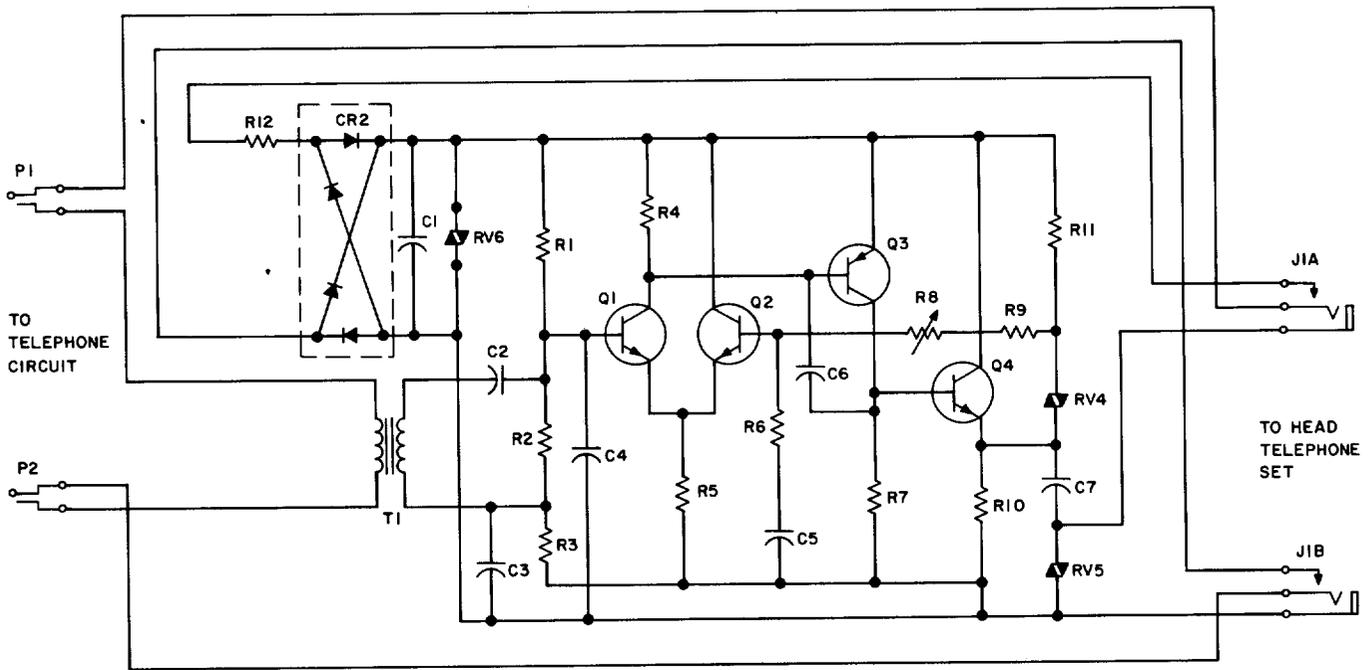

Fig. 3—292-Type Amplifier—Schematic
2.03 Protection against acoustic shock is provided by varistors and also by the overload characteristics of the amplifier. A schematic of the amplifier is given in Fig. 3.